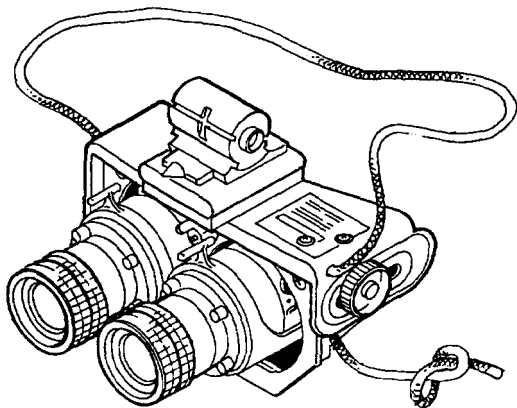

Figure 2-8. Installing the Neck Cord (GM-6(V)1 shown).
(1) Locate the neck cord.
(2) Tie a knot in one end of the neck cord. From the bottom side of the mount, insert the other end of the neck cord through one of the holes on the outside of the mount and then down through the other hole in the other side of the mount (fig. 2-8). Now, tie a knot in the free end of the neck cord on the underside of the mount.